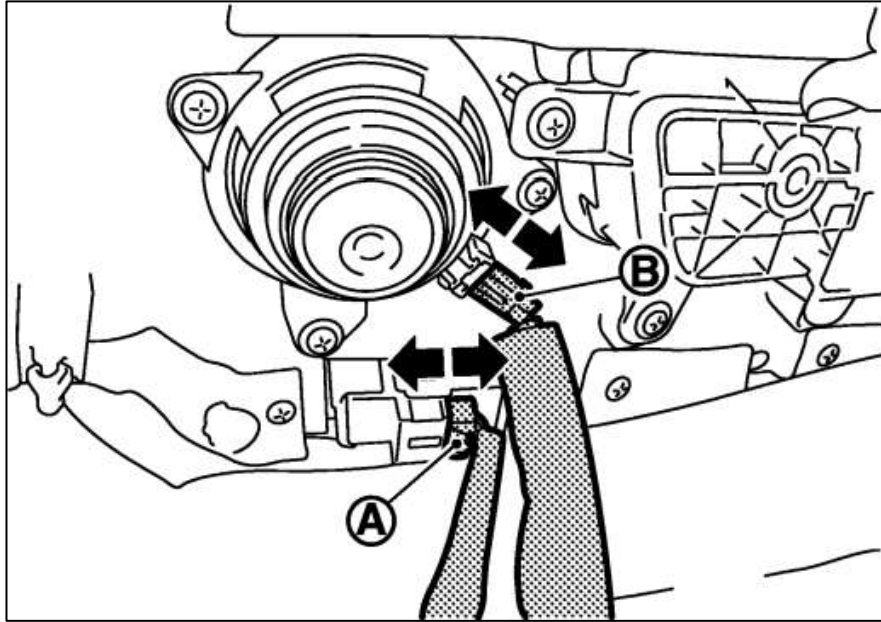

Figure 51
10. Disconnect the (2) two Door Panel Control connectors at the bottom of the Door Panel. *Figure 51.*